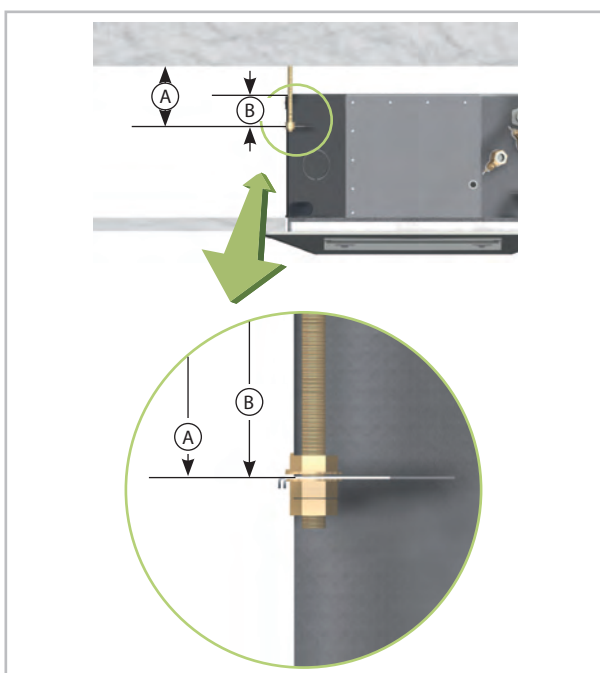

Fig. 32: Fastening the unit
4. Make sure that clearance A, as specified in the table (on page 29) is provided between the underside of the suspended unit and the underside of the fastening surface (Fig. 32).